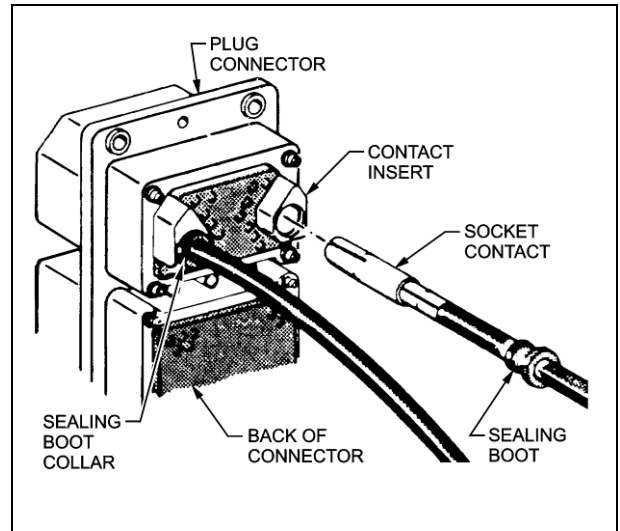

Figure 10-77 Insertion of Rear-Release Coaxial Contacts in MIL-C-81659 Connectors
- b. Place the cable over the "V" notch of the extraction tool handle. Then press the cable into the notch. The tool handle will spread open and allow the cable to enter. Make certain the cable is seated in the full length of the tool as shown in Figure 10-77.